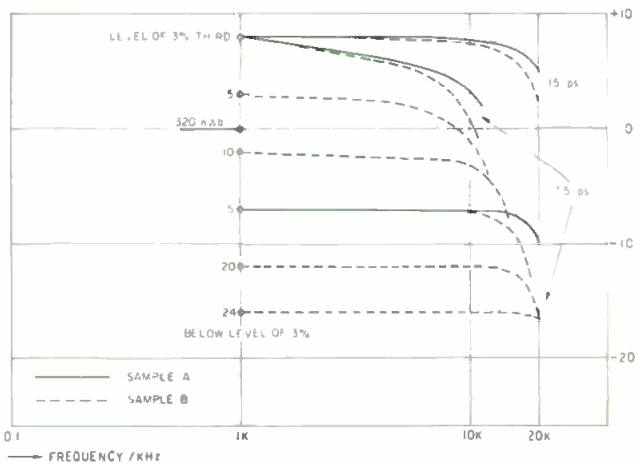

Figure 3. Frequency response at different speeds and different levels.
In FIGURE 3, we see the graphic presentation of a typical performance obtained with modern high-output tapes on a high-quality tape recorder. From these graphs, one can conclude the following: A slow speed recorder will drive the tape into saturation at comparatively low levels; musical selections with high intensity of high-frequency sounds cannot be recorded without severe losses at the upper spectrum. A recording tape may have reduced saturation characteristics at short wavelengths, causing high-frequency saturation to occur much sooner than on other magnetic oxides. (See FIGURE 3, samples (A) and (B) at -15dB.)